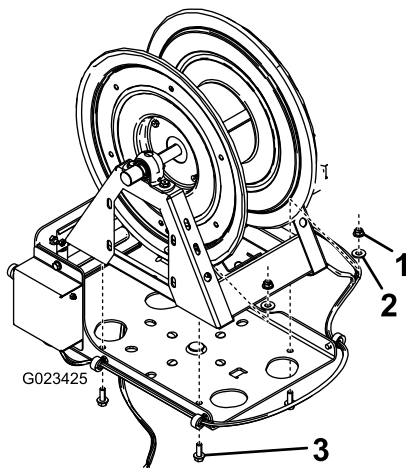

Figure 22
5. Secure the hose reel to the swivel plate using 4 bolts (3/8-16 x 1 inch), 4 washers (7/16 inch), and 4 flange nuts (3/8-16 inch) as shown in Figure 22.